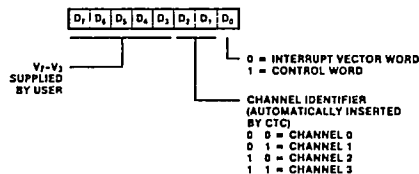

Figure 7. Interrupt Vector Word
**Interrupt Vector Programming.** If the Z-80 CTC has one or more interrupts enabled, it can supply interrupt vectors to the Z-80 CPU. To do so, the Z-80 CTC must be pre-programmed with the most-significant five bits of the interrupt vector. Programming consists of writing a vector word to the I/O port corresponding to the Z-80 CTC Channel 0. Note that  $D_0$  of the vector word is always zero, to distinguish the vector from a channel control word.  $D_1$  and  $D_2$  are not used in programming the vector word. These bits are supplied by the interrupt logic to identify the channel requesting interrupt service with a unique interrupt vector (Figure 7). Channel 0 has the highest priority.